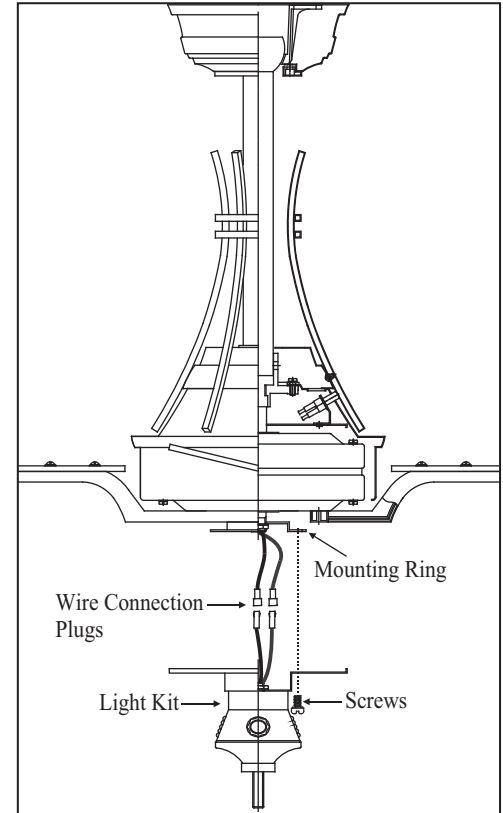

Figure 16
1. Remove 1 of the 3 screws from the mounting ring, loosen the other 2 screws (Do not remove). (Figure. 16)
2. While holding the light kit assembly under your fan, make the polarized plug connections: (Figure 16)